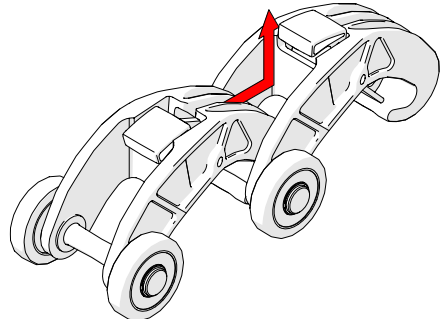

Fig. 67 - Slide link forward and lift
2. While pressing the button, slide the chain link forward and up, clearing the hook of the chain link from the 2nd link's axle (*Fig. 67*).